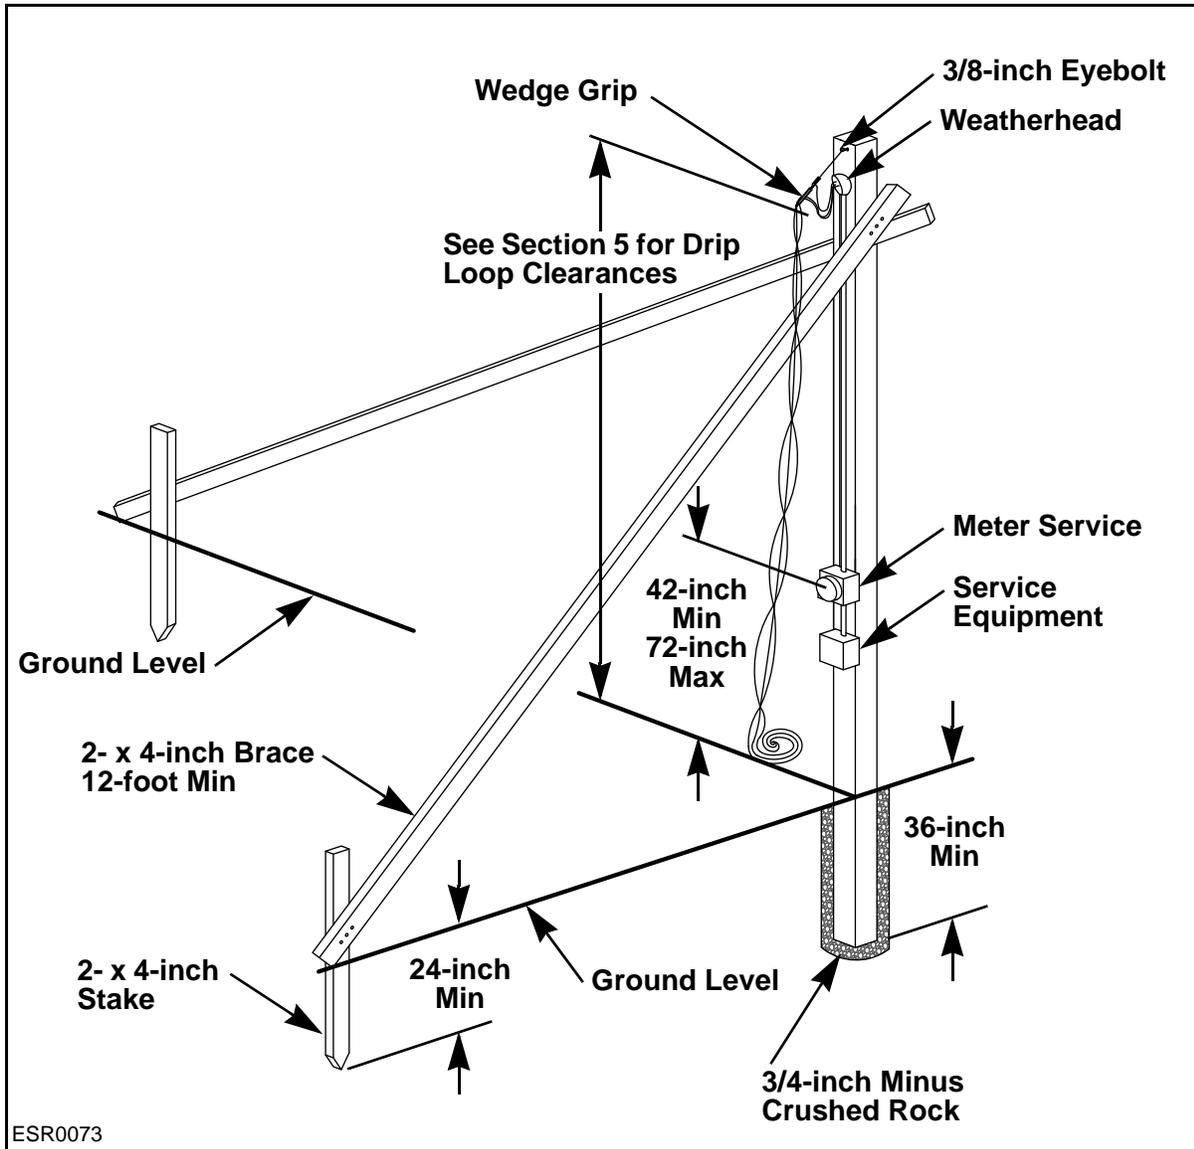
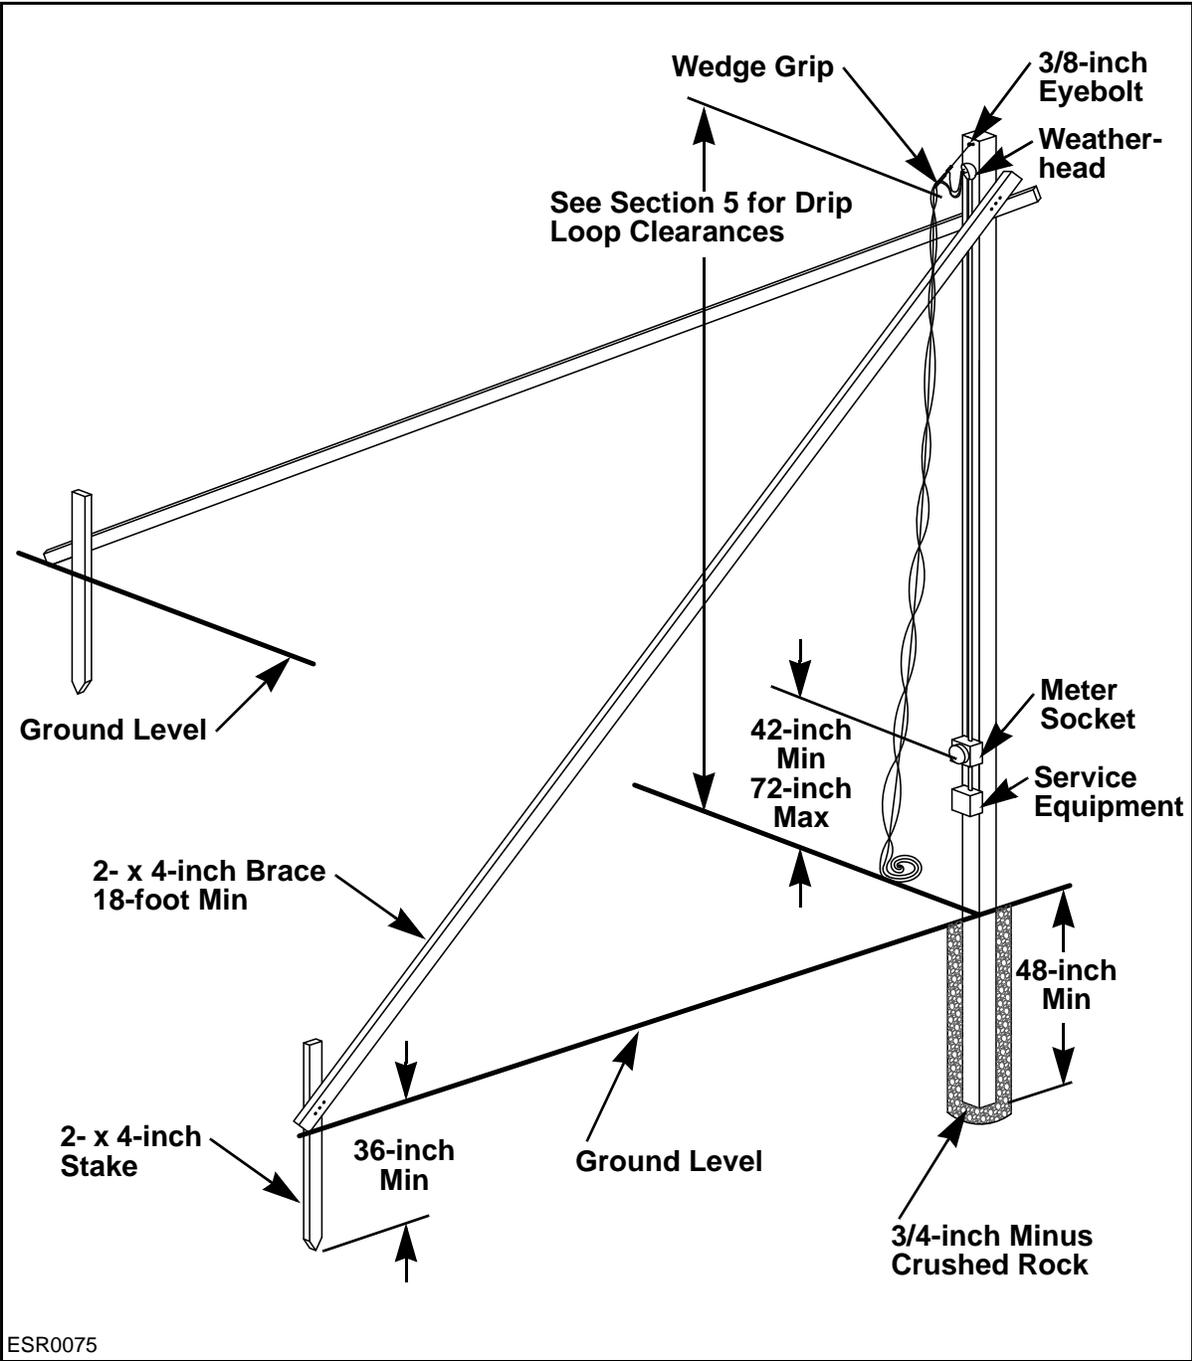
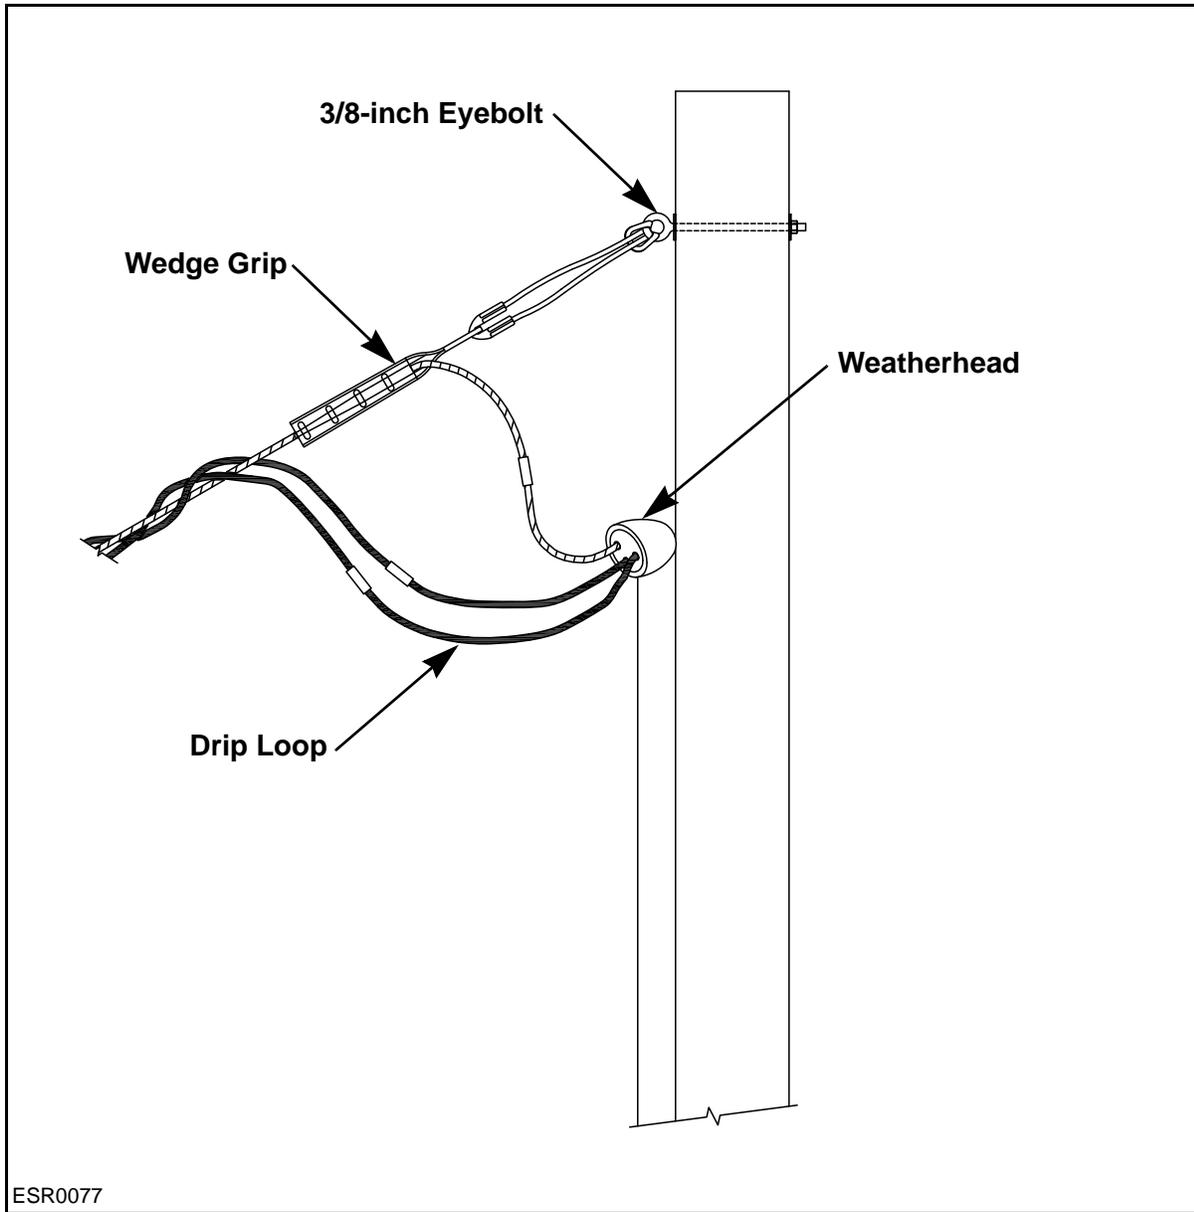

Figure 4-1: 6- x 6-inch Overhead Service Post in a Nonroad Crossing
Figure 4-2: 6- x 6-inch Overhead Service Post in a Road or Traffic Crossing
Figure 4-3: Detail of Attachment Point and Connection Point
- See **Figure 4-1** for an overhead service in a nonroad crossing.
- See **Figure 4-2** for an overhead service in a road or traffic crossing.
- See **Figure 4-3** for a detail of the attachment point and connection point.
See **Figure 4-1**. See **Figure 4-3** for a detail of the attachment point and connection point.
See **Figure 4-2**. See **Figure 4-3** for a detail of the attachment point and connection point.